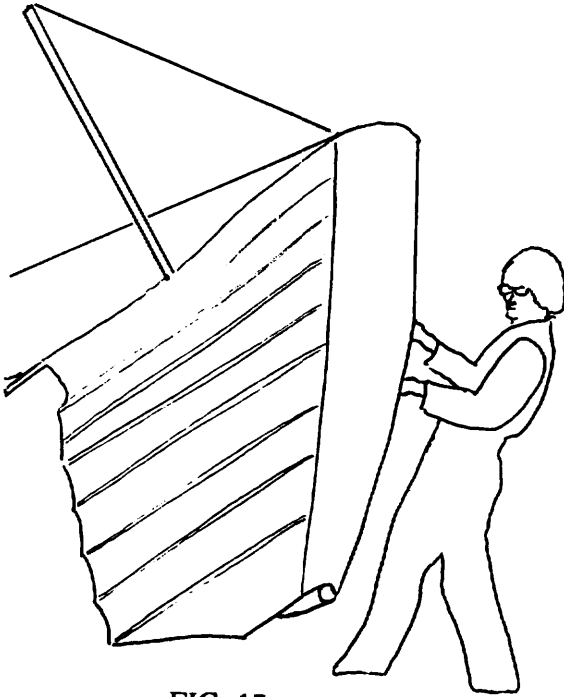

FIG 15
12) Spread the wings all the way and check all wires for twisted thimbles or tangs. (Fig 15 and 16)